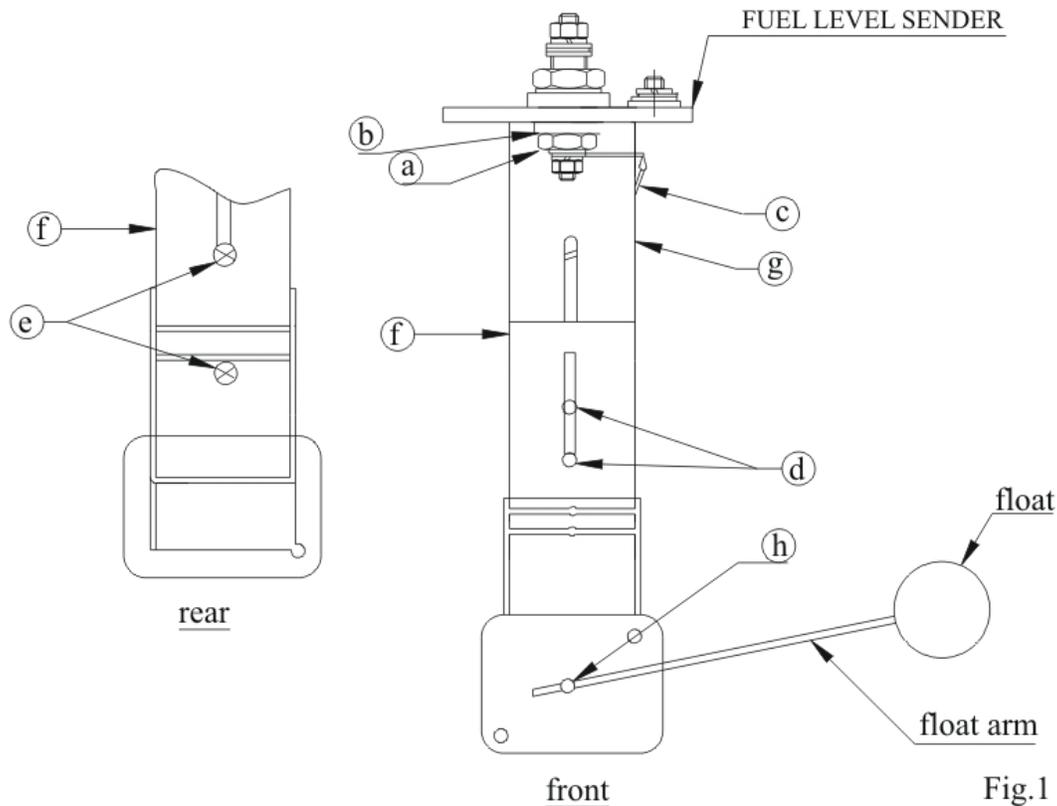

Fig.1
**II.** For tank depths 6” to 15-1/2”, it will be necessary to eliminate a part of the assembly. (See Fig.1) proceed as follows:
**NOTE:** Make sure the float is installed as shown in Fig.1. If installed backwards, the fuel gauge will indicate “full” when the tank is empty, and “empty” when the tank is full.